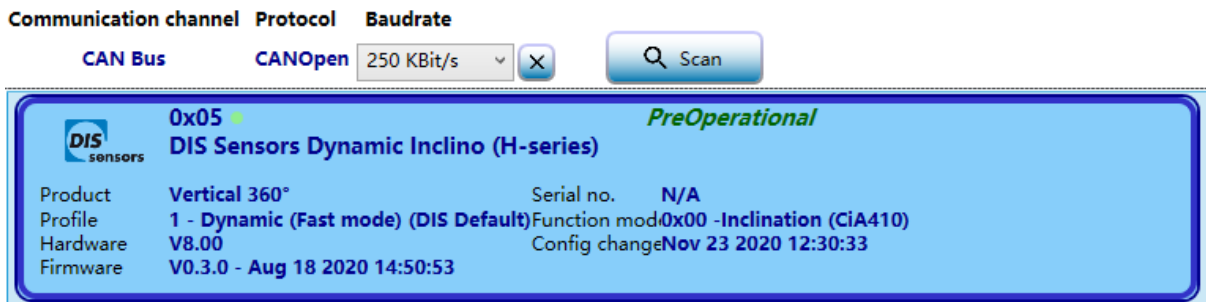

Figure 22 - Sensor detection
- **Sensor detection.** Click , the software will scan the CAN bus and find the connected sensors. Basic information such as product name, serial number, etc. will be shown as in Figure 22.